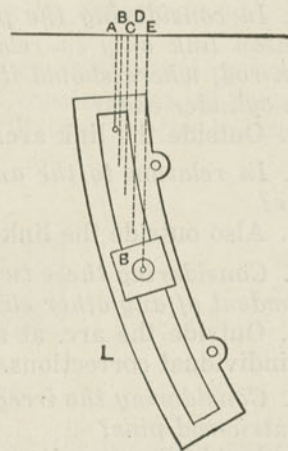

Fig. 285
*A. This is best seen from the skeleton sketch, Fig 285, in which *L* is the link, *B* the block, and the various dots show successive relative block positions with relation to*